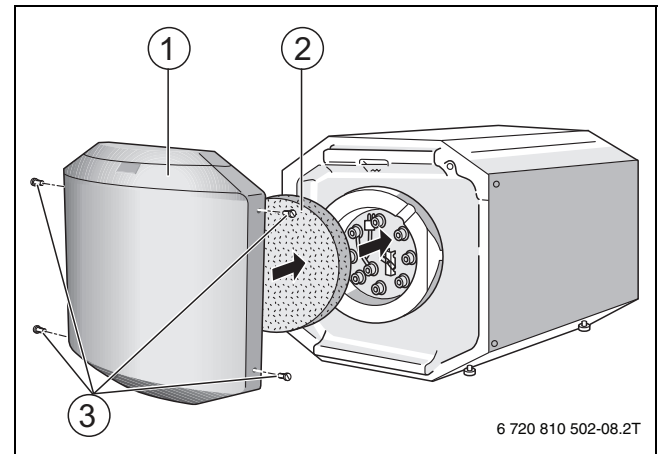

Fig. 15 Fitting the thermal insulation and front cover
- ▶ Place the thermal insulation element (→ Fig. 15 [2]) in front of the handhole cover.